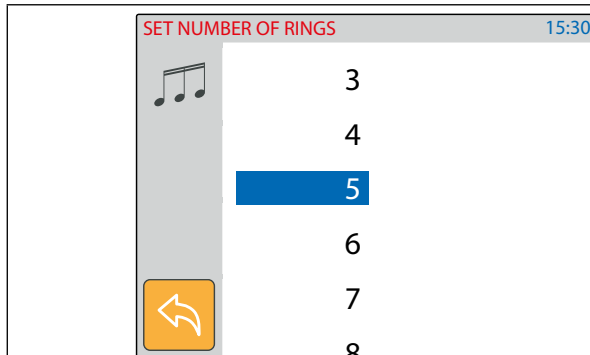

Fig. 11 Select the number of rings
- The current value is shown (**Fig. 11**).